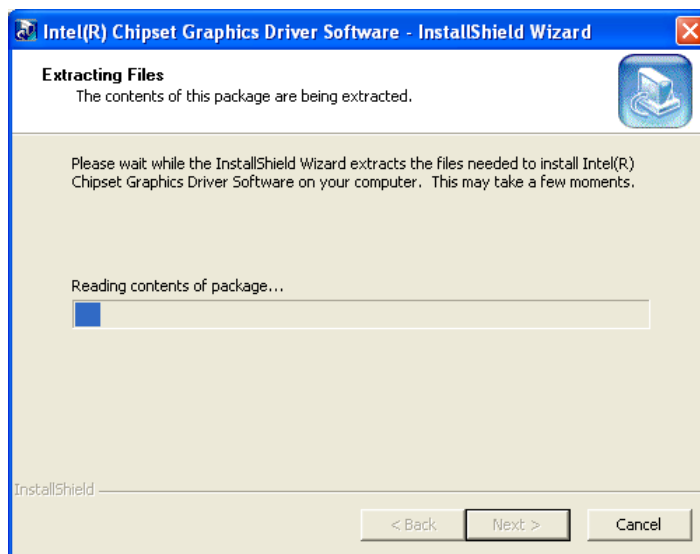

Figure 7-11: VGA Driver Setup Files Extracted
Step 5: The installation files are extracted. See Figure 7-11.